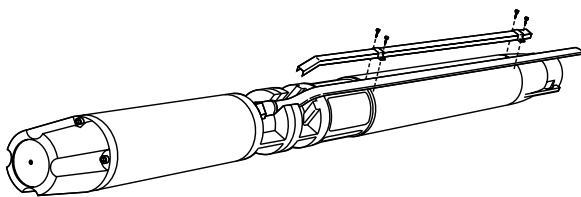

fig. 5
- Adjust electric cables outside the pump and cover them by the suitable cable guard (fig. 5).